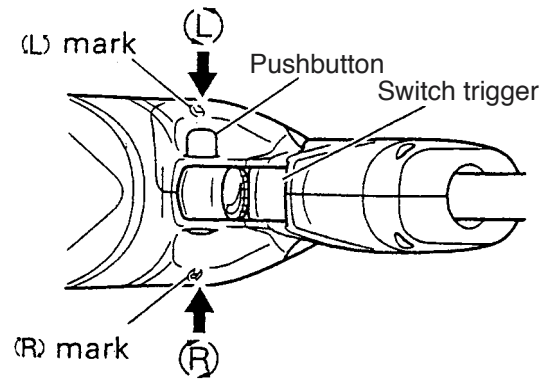

Fig. 2
(2) Checking the rotational direction (Fig. 2)